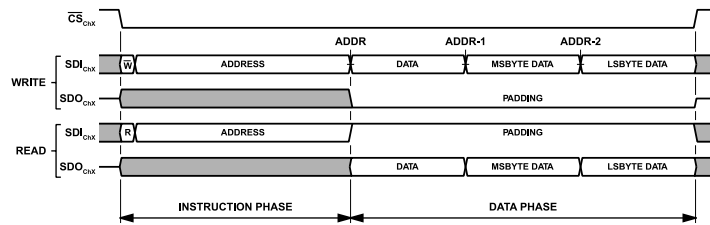
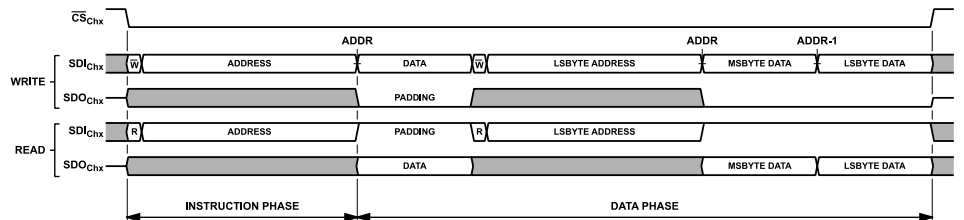
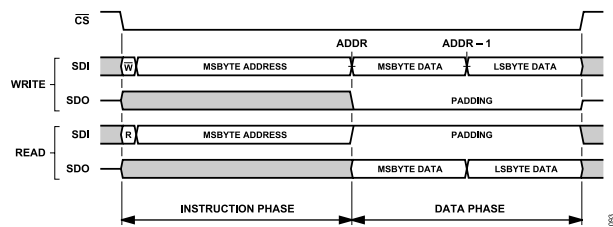
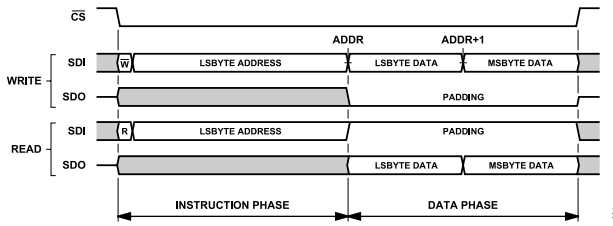

Figure 91. Interface Access Example, Default Interface Configuration, Streaming Mode (ADDR\_ASCENSION = 0)
Figure 92. Interface Access Example, Single Instruction Mode (SINGLE\_INST = 1), All Other Interface Options Default
Figure 94. Single Instruction Format, ADDR\_ASCENSION = 0 (Descend), STRICT\_REGISTER\_ACCESS = 1 (Enabled)
Figure 95. Single Instruction Format, ADDR\_ASCENSION = 1 (Increment), STRICT\_REGISTER\_ACCESS = 1 (Enabled)
Figure 91 shows the generic SPI frame formatting for a serial transaction using the default interface configuration. In this example, a portion of the configuration register space consisting of a byte-wide register and a multibyte register is accessed. The address for the byte-wide register resides in the most significant address
In single instruction mode (SINGLE\_INST = 1), the memory access controller requires an instruction phase to transmit for each register accessed in a given SPI frame, as shown in Figure 92. This mode is useful when access to nonadjacent sections of the register space is required in a given SPI frame. Note that, the same access flexibility can be achieved in stream mode by initiating a new SPI frame for each unique register access.
The address ascension selection (ADDR\_ASCENSION) bit, as described in previous sections, determines how the internal interface address pointer is updated for each byte of data transmitted to the AD4884 channel in streaming mode (SINGLE\_INST = 0). If using single instruction mode (SINGLE\_INST = 1), each register is directly addressed through its own instruction phase, as shown in Figure 92, and thus, the address pointer is not updated. Regardless of the setting for SINGLE\_INST, the ADDR\_ASCENSION bit directly impacts the formatting of the SPI frame in terms of selection of the instruction phase starting address and byte order of the data phase payload. This impact is described in greater detail in the Strict Access Selection and Multibyte Registers section as much of the data formatting is dependent on this interface configuration selection. The ADDR\_ASCENSION selection bit is located in the Interface Configuration A register (see the Interface Configuration A Register section, Address 0x00).
As shown in Figure 94, the address counter, by default, automatically decrements (ADDR\_ASCENSION = 0) such that the most significant byte of the multibyte register is accessed first, followed by the remaining byte(s) in that register in ascending order. Conversely, if ADDR\_ASCENSION = 1, the least significant byte of the multibyte register is accessed first followed by most significant byte.
As an extension of this concept, when STRICT\_REGISTER\_ACCESS = 1, any SPI frame that accesses a multibyte register as the first entity in the data transfer must correctly set the starting address in the instruction word to correspond to the ADDR\_ASCENSION selection. In the case that the address counter automatically decrements (ADDR\_ASCENSION = 0), the starting address is assigned to the register address for the most significant byte of that multibyte register, and conversely, if configured to increment automatically, the starting address must be set to the register address for the least significant byte. As a result of the change to ADDR\_ASCENSION from automatic address decrement (0) to automatic increment (1), Figure 91 and Figure 92 change as shown in Figure 94 and Figure 95 to accommodate the changes in data phase byte order and instruction phase multibyte register start address.